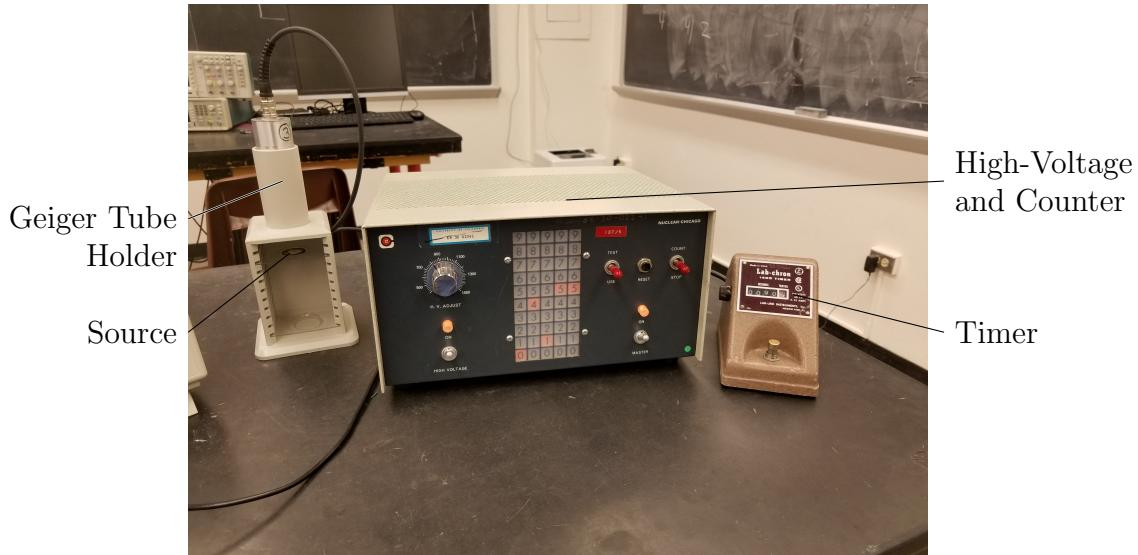

Figure 9: The Geiger Counter assembly.
To begin, you will familiarize yourself with the counter and timer features of your Geiger counter assembly using the built-in test mode. Your lab bench will already be prepared with a Geiger Counter assembly as shown in Fig. 9. Ensure that the high-voltage (HV) is off by turning the knob labeled “H.V. Adjust” counter-clockwise all the way to zero. Now put the Geiger counter into test mode by flipping the left red switch to “TEST”. Flip the right red switch to “COUNT” and you should see the counter display begin incrementing. Push the button on the front of your timer and you should see the Timer turn on and off. Leave the timer incrementing. Now flip right red switch to “STOP”, and observe that the both the counter and the timer stop simultaneously. The knob on left side of the old-school lab timer can be used to reset the time. Keep turning the knob clockwise until the time reads 0. Use the black button on the Counter to reset the count to zero.